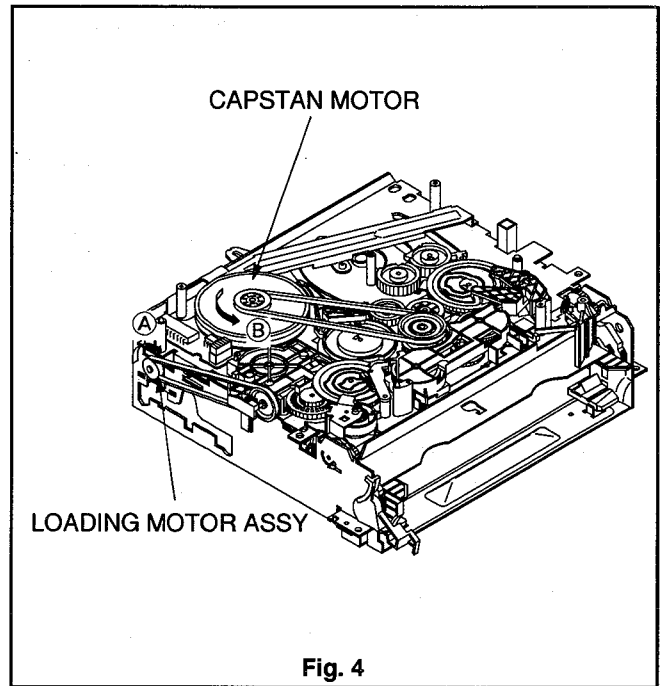

Fig. 4
- 3 Eject and insert the cassette tape, and then set the VCR to the reverse search mode again. Check that the tape is not creased at the lower flange of the GUIDE POLE (TU). If the crease cannot be removed, repeat the procedure 1 ~ 3.
- 4 Set the VCR to the playback mode and check that the tape is not creased at the lower flange of the GUIDE POLE (TU). If the crease cannot be removed, repeat "Adjustment of A/C HEAD Slant" in Item 3-3-1 and the succeeding adjustments.
- 5 Run the start portion of E-180 blank tape in the forward search mode and check that the tape is not creased at the GUIDE POLE (TU).
- 3 If the TAPE GUIDE ASSY is in a status for loading, turn the LOADING MOTOR ASSY shown in Fig. 4 in the direction shown by arrow (A) and move the TAPE GUIDE ASSY fully to the loading direction.
- 4 Turn the CAPSTAN MOTOR shown in Fig. 4 in the direction shown by arrow (B) to wind the tape up within the cassette.
- 5 Turn the LOADING MOTOR ASSY shown in Fig. 4 in the direction shown by arrow (A) to eject the tape.